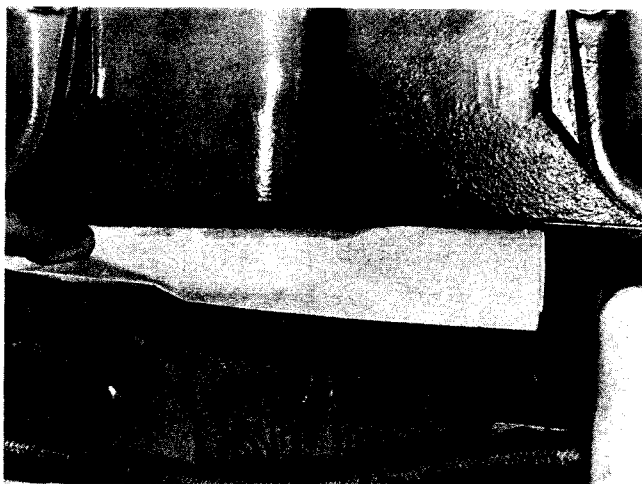

Fig. 6. Use absorbent paper for detecting leaks
1. Use absorbent paper to detect seepage from a surface or joint. Clean the area suspected of leaking and apply a blotter, piece of filter paper or paper towel while engine is running. The leaking fuel will be detectable on the paper. Fig. 6.